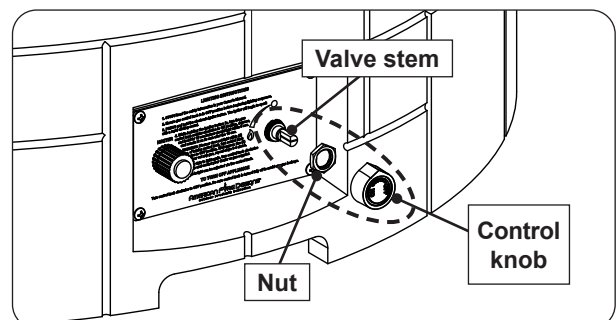

Fig. 32-4 Remove control knob and nut
5. Remove the control knob, and set aside. Use a 20mm socket to remove the nut attached to the valve. See Fig. 32-4.